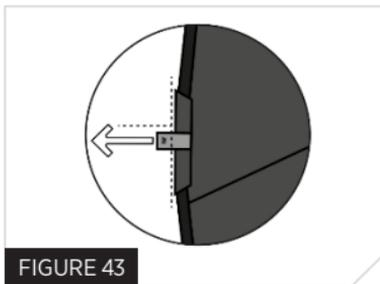

FIGURE 43
22. Ensure the red breakout cord is perpendicular to the zipper (Fig. 43) and is visible and easily accessible in the event that oral inflation is required (see “Oral Inflation” under “Inflating Your PFD”, page 11).